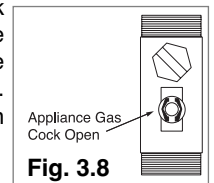

FIG. 3.8
4. Turn on the gas cock (Fig. 3.8) and check the seals on the connections, including the one for the burner, making sure that the meter does not signal the passage of gas. Check the connections with a soap solution and eliminate any leaks.